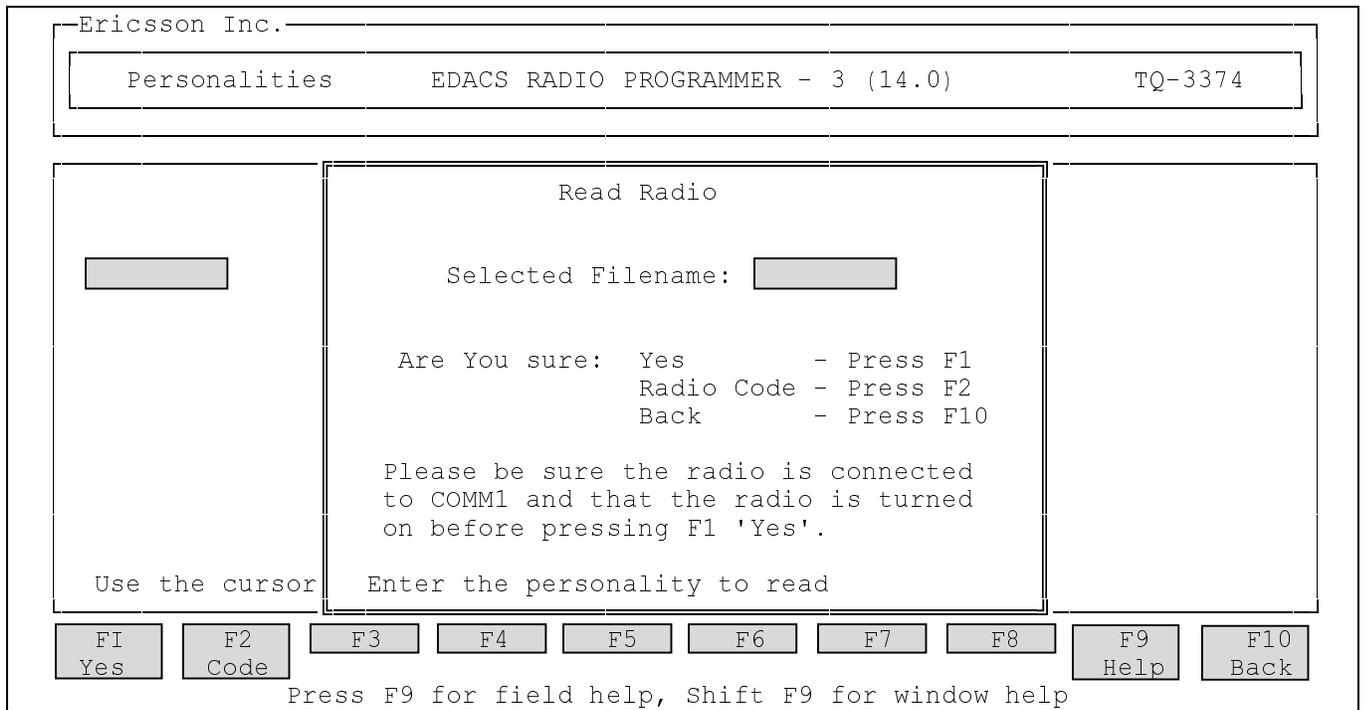

Figure 13 - Read Radio Window
- Using the **Current Personality** screen as the starting point, press the **F6** (Read) function key to bring up the **Read Radio** window in front of the **Current Personality** screen (Figure 13).